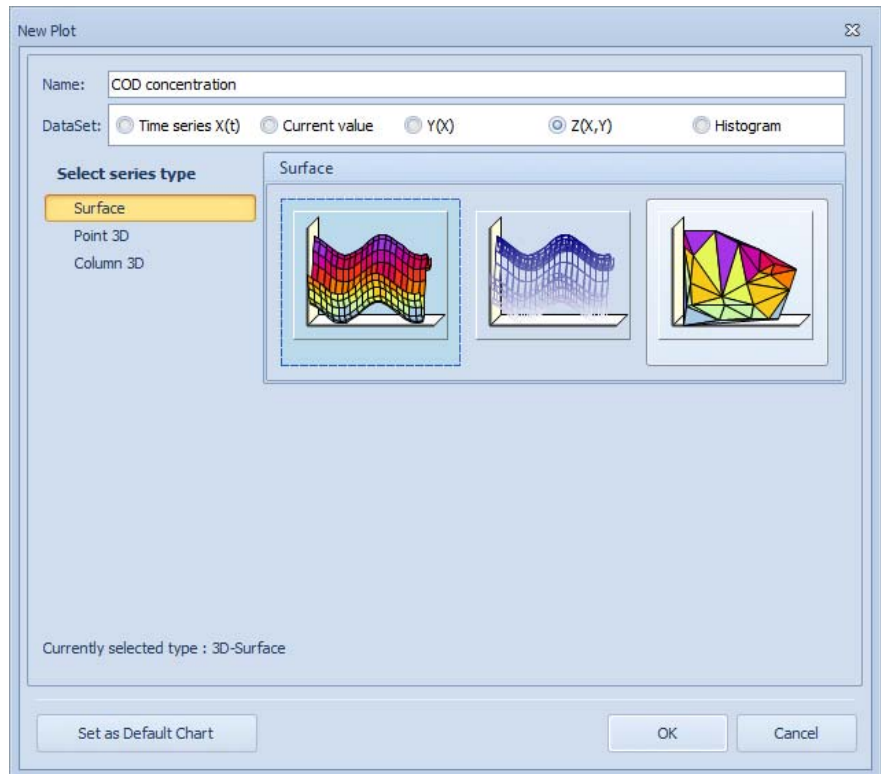

Figure 11.2 New plot dialogue: create a 3D Surface plot
- Add a Z(X,Y), Surface type plot, “COD concentration” (Figure 11.2)